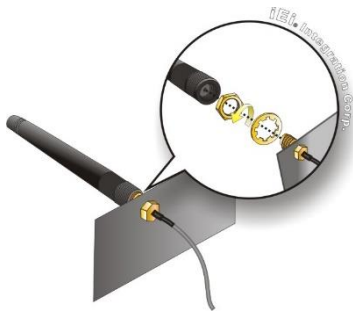

Figure 3-9: Secure SMA Connectors and External Antennas
Step 9: Install the external antenna (**Figure 3-9**).